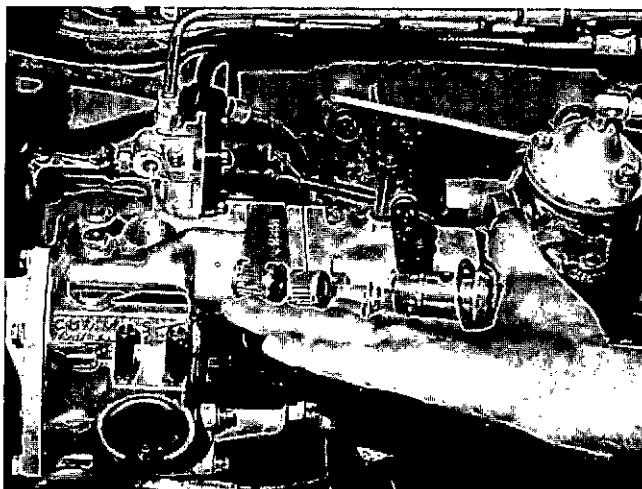

Fig. 5-32, V41912. Fuel pump screens — PT (type G) fuel pump with MVS governor
1. Remove filter cap and dynaseal from governor housing. See Fig. 5-32.